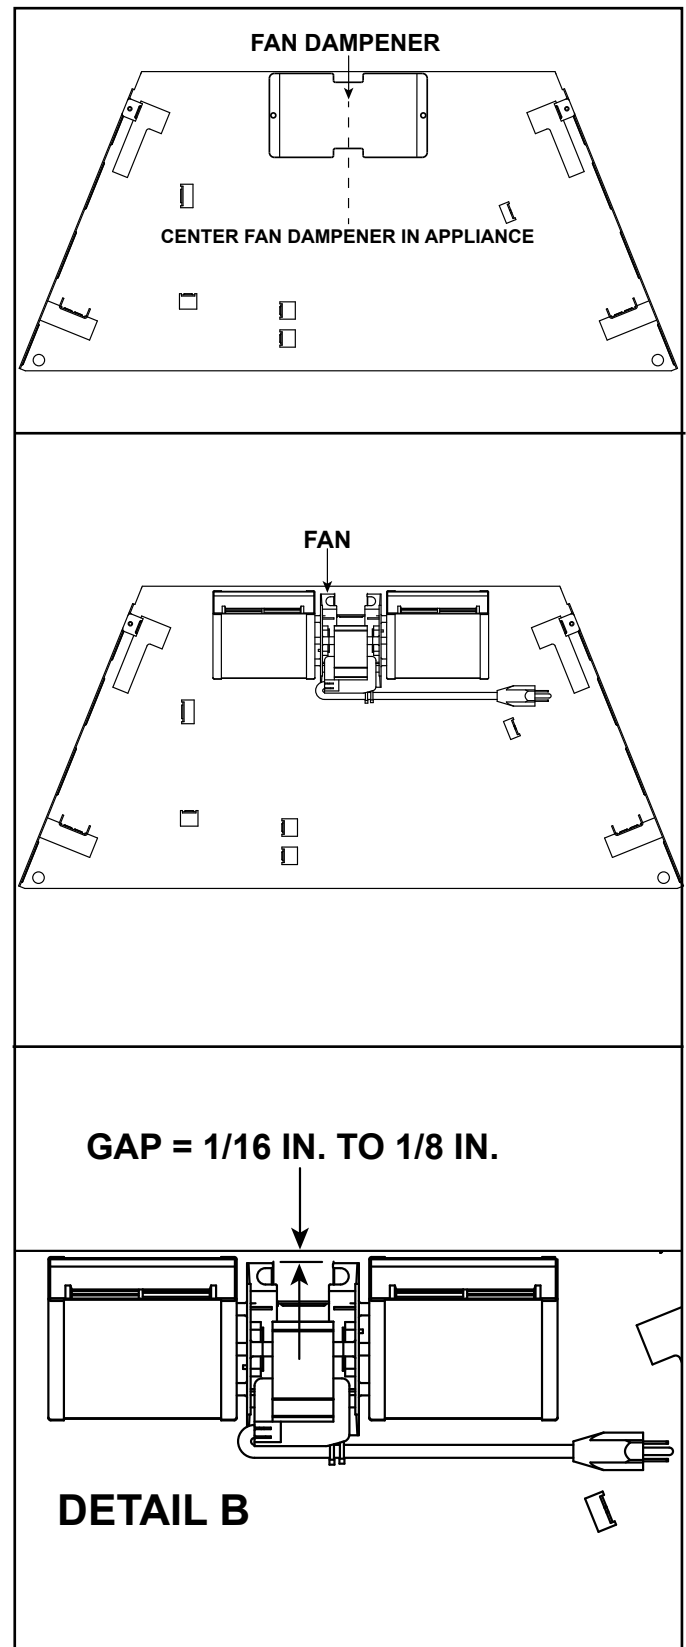

Figure 9.4 Fan Location
2. When servicing or replacing a fan, note the location of the fan and fan dampener as shown in Figure 9.4. The fan dampener will be located under the fan. The gap between the back of the outer wrap and the fan should be between 1/16 inch and 1/8 inch as shown in Figure 9.4, Detail B. Additionally, the fan should not touch the firebox.